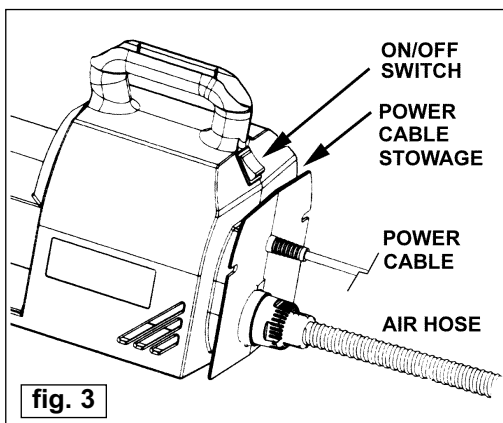
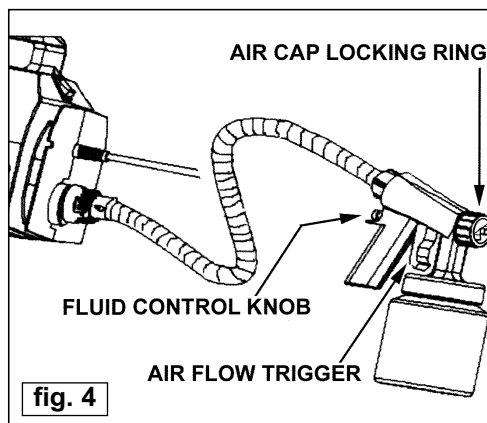

fig. 3
fig. 4
- 4.2. Remove the spray gun from the unit and set the air cap to give the required spray pattern. Do this by loosening the air cap locking ring as indicated in fig.4 and rotating the air cap to give the required spray pattern as shown in fig.5. Retighten the locking ring.
- 4.4. Lay out the air hose and connect one end to the back of the unit using a push and twist action (see fig.3). Connect the other end of the hose to the gun as shown in fig.4.
- 5.1. To adjust the width of the spray pattern turn the fluid control knob as indicated in fig.4. To reduce the amount of material sprayed screw the knob in. To increase the amount of material sprayed screw the knob out.